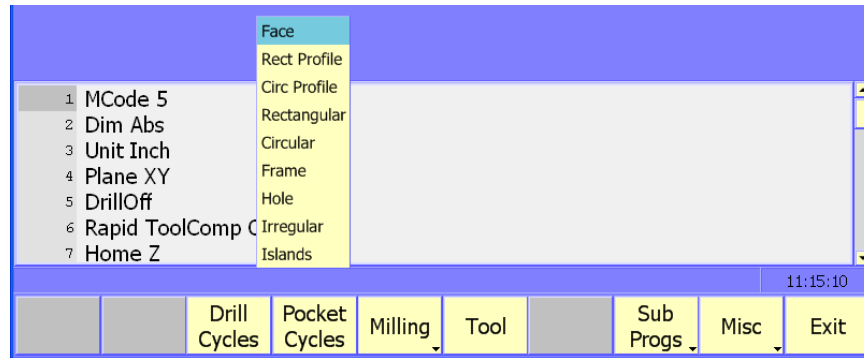

Figure 4-10, Pocket Cycles (F4) Pop-up Menu
Pocket canned cycles simplify the programming of repetitive moves required to mill out pockets. Select the pocket-canned cycles from the Program Editor **Pocket Cycles (F4)** pop-up menu. Refer to **Figure 4-10**.
1. In Edit Mode, press **Pocket Cycles (F4)** to display the pop-up menu. Refer to Figure 4-10, Pocket Cycles \(F4\) Pop-up Menu.
In Edit Mode, press **Pocket Cycles (F4)** to display the Pocket Cycles pop-up menu. Refer to Figure 4-10, Pocket Cycles \(F4\) Pop-up Menu.
1. In Edit Mode, press **Pocket Cycles (F4)** to display the Pocket Cycles pop-up menu. Refer to Figure 4-10, Pocket Cycles \(F4\) Pop-up Menu.